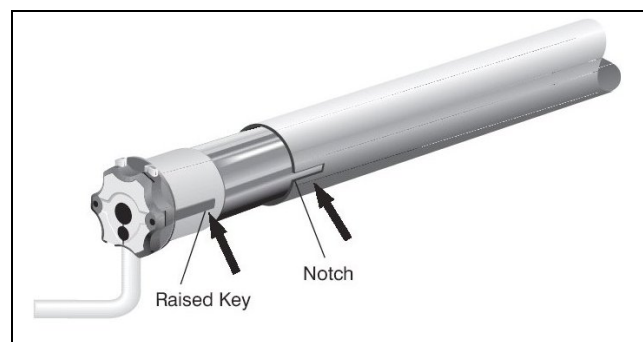

Figure 6 Motor and Tube
- Align the raised key on the motor with the notch in the other end of the tube and slide the motor all the way into the tube until it locks into the drive wheel. See Figure 6.